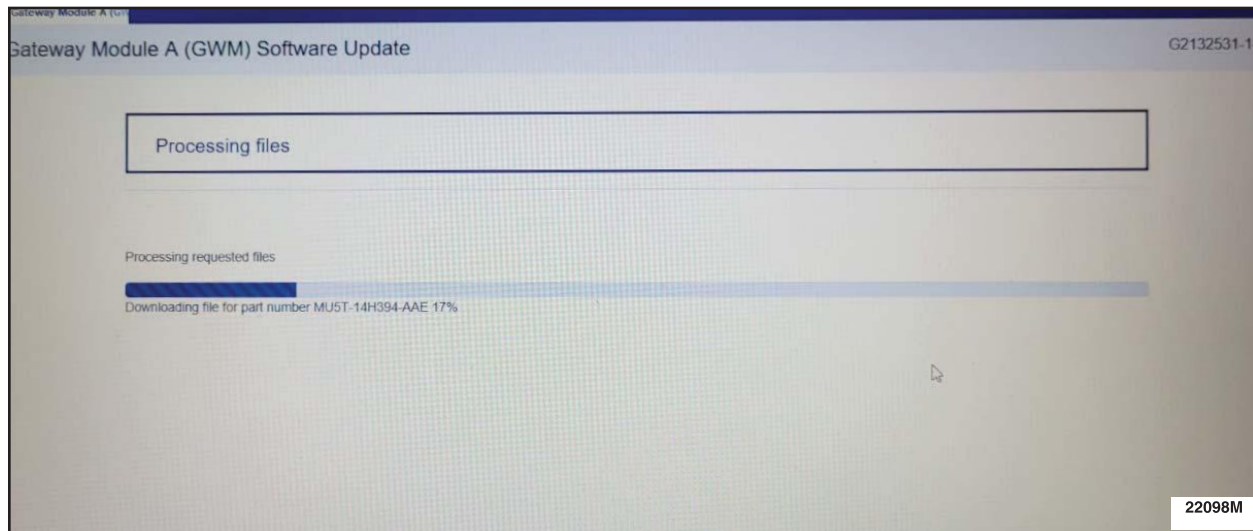

FIGURE 8
11. When prompted, turn the ignition to key on engine off and click the OK icon. See Figure 8.
12. Allow the software files to process. See Figure 8.